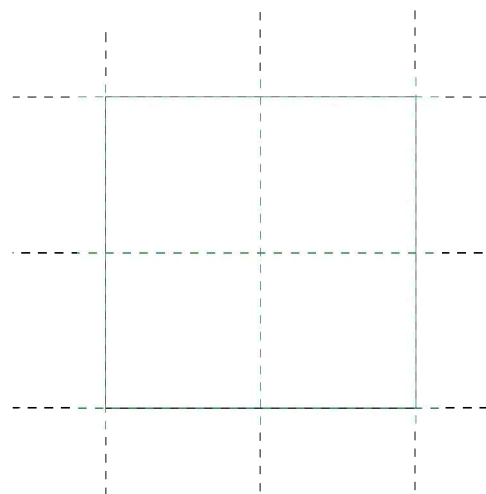

FIGURE 18-2.13 Side of 3D box aligned with *Reference Planes*
23. **Align** and **Lock** the other three sides of the box (Figure 18-2.13).